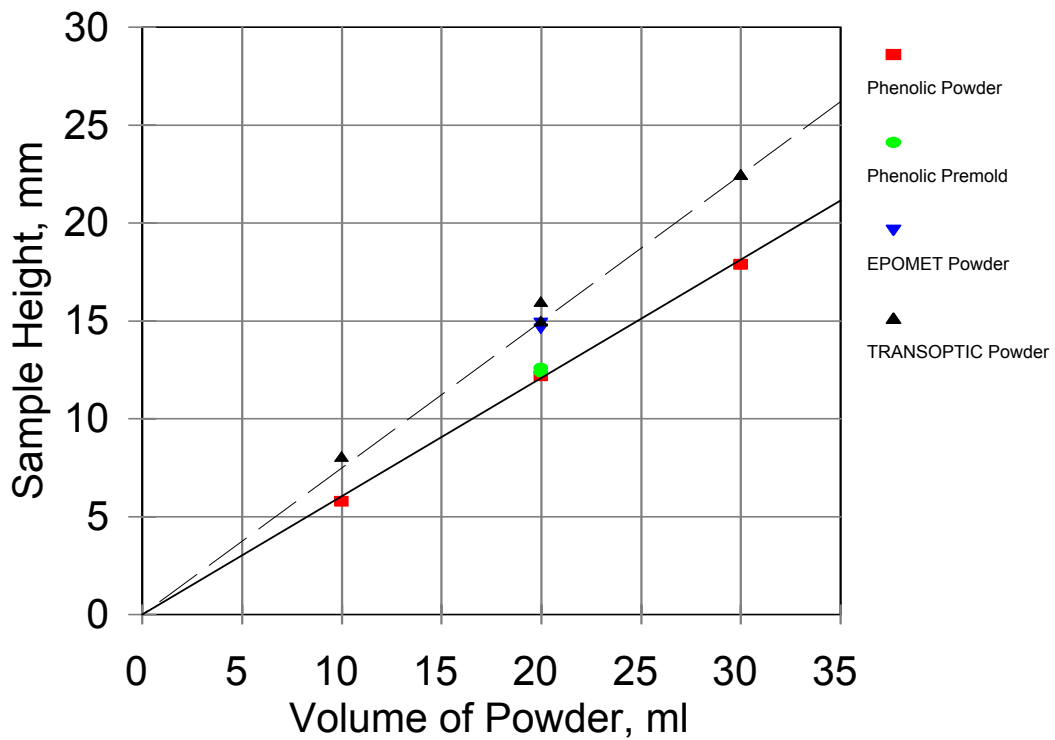

Figure 1. Height of pressed molding compound as a function of volume of powder.
- C If using a powder, measure out enough (typically 20 ml) to fully encase your specimen. See figure 1.